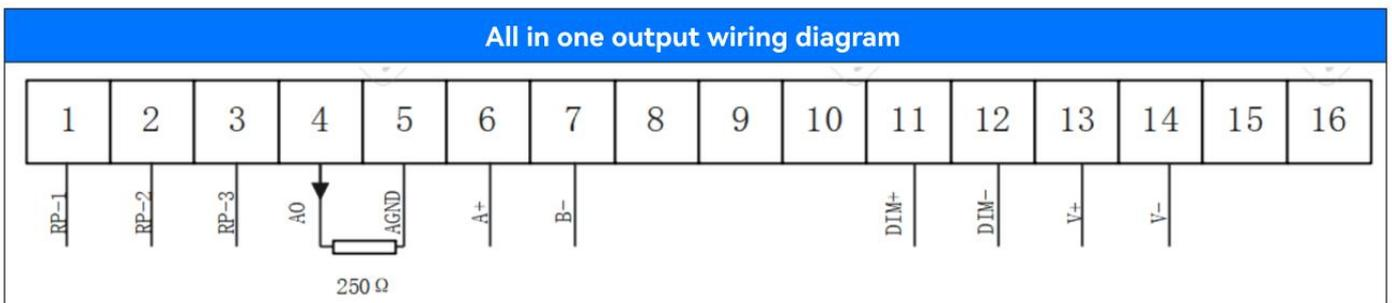
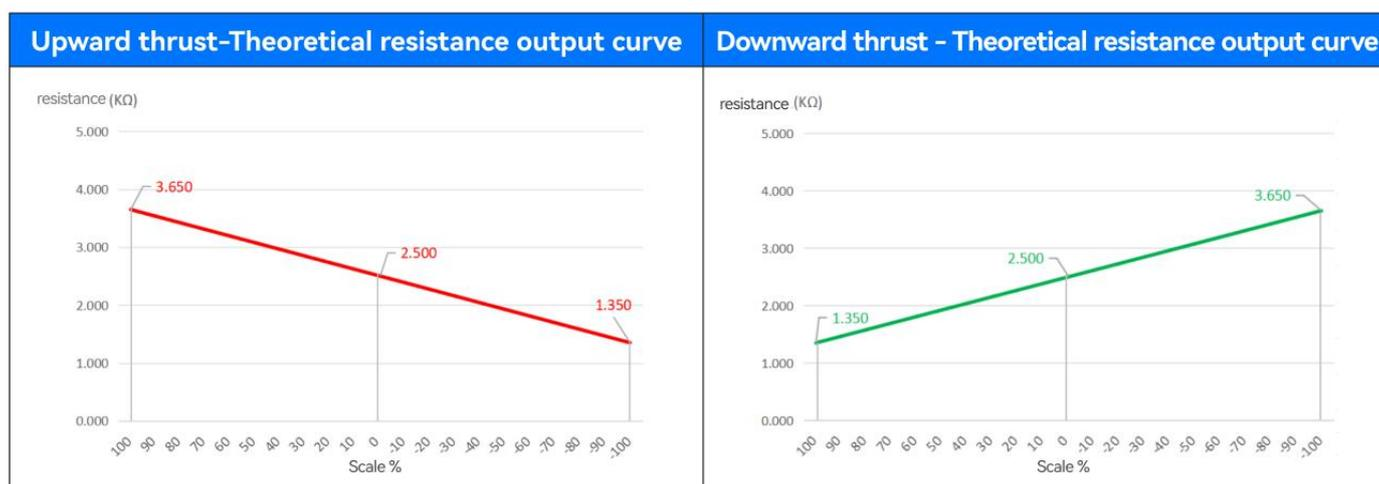
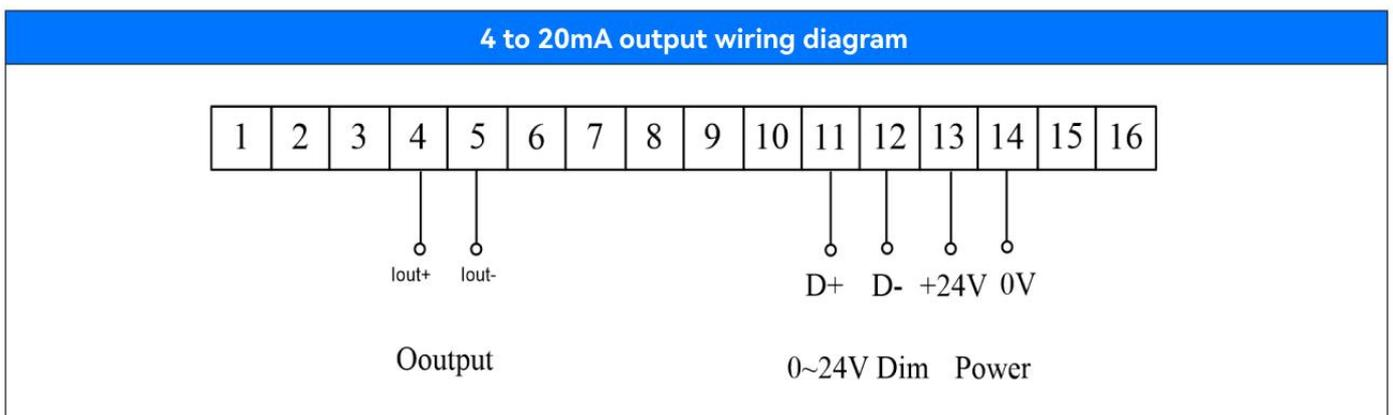

Figure 1.5
Figure 2.1
Figure 2.4
5. Output mode: direct potentiometer linear output, linear relationship with the scale, the theoretical output is shown in Figure 2.1, the actual output is seen in the product factory inspection report.
4. Output signal: The handle can provide a variety of optional output signals for the control system, including the direct output of the potentiometer, $4\sim 20\text{mA}$, and can also provide passive switch contacts. Please refer to wiring diagram 1.5 for the direct output type of potentiometer and Figure 2.1 for the corresponding relationship. The wiring for $4\sim 20\text{mA}$ output is shown in Figure 2.4:
5. Backlight adjustment mode: the thin film of the handle adopts cold light source design, the brightness can be adjusted, and the dimming mode includes resistor adjustment (in which the dimming mode of the resistor is only suitable for our model VDM-96 dimmer, the resistance value is $2K\Omega$), 0-24V voltage adjustment, PWM, and the wiring is shown in FIG. 1.5 and FIG. 2.4. The cables are shown in Figure 1.5 and Figure 2.4.
2. Switch on the power supply, connect the cables as shown in Figure 1.5, push the handle rod, and the resistance reading between terminals 1 and 2 is the output value of continuous linear change in Figure 2.1. The backlight emits normally. After the inspection is complete, place the handle lever at 0 scale.
3. According to the characteristics of the accessories used in this product, the instantaneous input voltage shall not exceed 20% of the range specified in Figure 1.5 at any time. Avoid excessive instantaneous current and burning accessories.